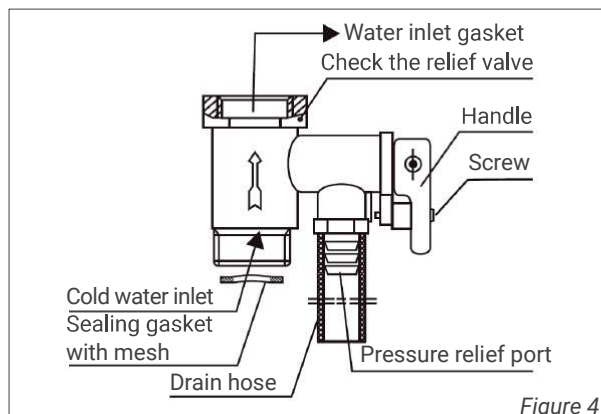

Figure 4
1. The safety valve (factory original identification 0.8MPa) in the accessories will be installed at the water inlet joint (as shown in Figure 4), and the raw material. The tape must be wrapped to ensure sealing. The direction of the arrow must be consistent with the direction of the water inlet flow of the electric water heater (as shown in Fig. 4). The mesh sealing gasket will be installed at the cold water inlet of the safety valve, and the drain hose at the pressure relief outlet of the safety valve must be installed to maintain a continuous downward slope. It will be installed in a frost-free environment, then extended to the ground drain, kept connected to the atmosphere, and properly fixed to prevent burns from hot water or steam discharge. The safety valve can prevent the tank pressure from exceeding the nominal pressure of 0.1MPa. If the pressure in the tank is too high, the safety valve will automatically open and drain water from its pressure relief port to release pressure.
8. If users want a multi-channel water supply, they can connect the water pipe according to the method shown in Figure 4.